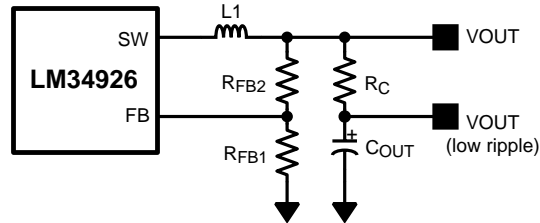

Figure 13. Low Ripple Output Configuration
The LM34926 step-down switching regulator features all the functions needed to implement a low cost, efficient, isolated bias supply. This high voltage regulator contains 100 V, N-channel buck and synchronous switches, is easy to implement, and is provided in thermally enhanced SO PowerPAD-8 and WSON-8 packages. The regulator operation is based on a constant on-time control scheme using an on-time inversely proportional to V_{IN} . This control scheme does not require loop compensation. Current limit is implemented with forced off-time inversely proportional to V_{OUT} . This scheme ensures short circuit protection while providing minimum foldback. The simplified block diagram of the LM34926 is shown in Figure 13.
This regulator regulates the output voltage based on ripple voltage at the feedback input, requiring a minimum amount of ESR for the output capacitor (C_{OUT}). A minimum of 25 mV of ripple voltage at the feedback pin (FB) is required for the LM34926. In cases where the capacitor ESR is too small, additional series resistance may be required (R_C in Figure 13).
For applications where lower output voltage ripple is required the output can be taken directly from a low ESR output capacitor, as shown in Figure 13. However, R_C slightly degrades the load regulation.